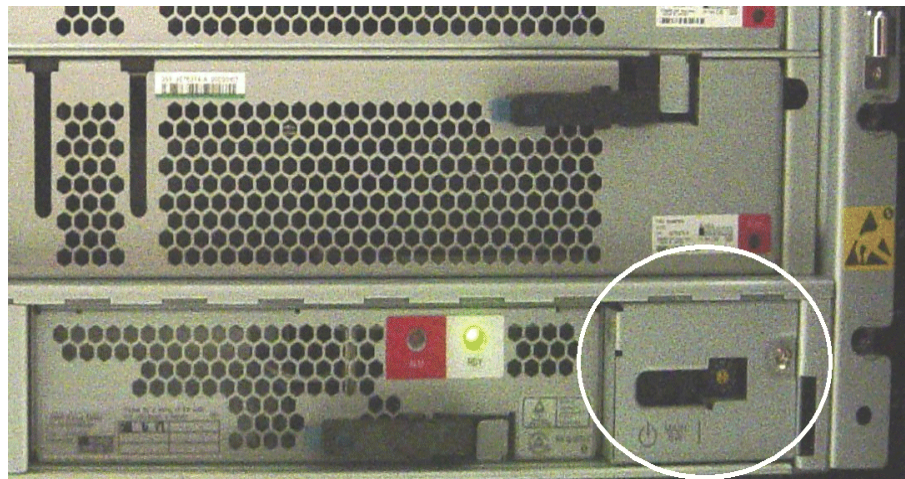
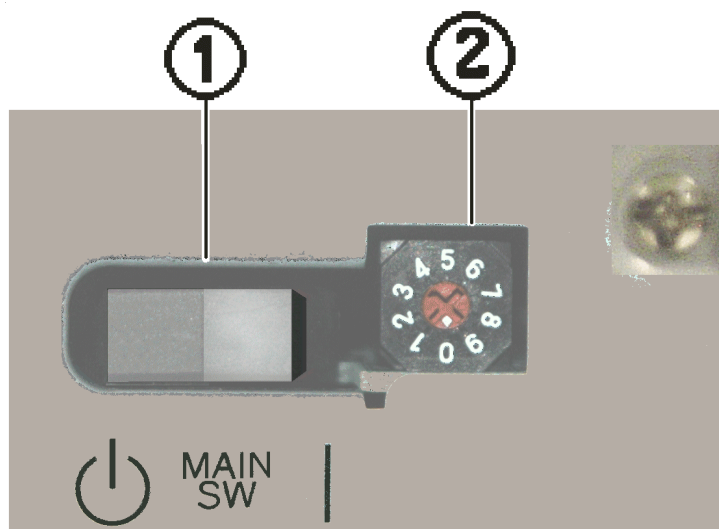

Figure 6-1: Base Unit Switch Panel Location
Figure 6-2: Base Unit Switch Panel
The power ON/OFF buttons on the front bezel actuate the Main Switch on the front of the base unit (behind the front bezel). The Main Switch is a rocker switch on the switch panel which is located in the lower right corner on the front panel of the base unit. See Figure 6-1 and the expanded view in Figure 6-2.
1. Press the right side of the Main Switch. As shown in Figure 6-2, the power ON side of the switch is labeled . This applies power to the control units and to the disk drives.